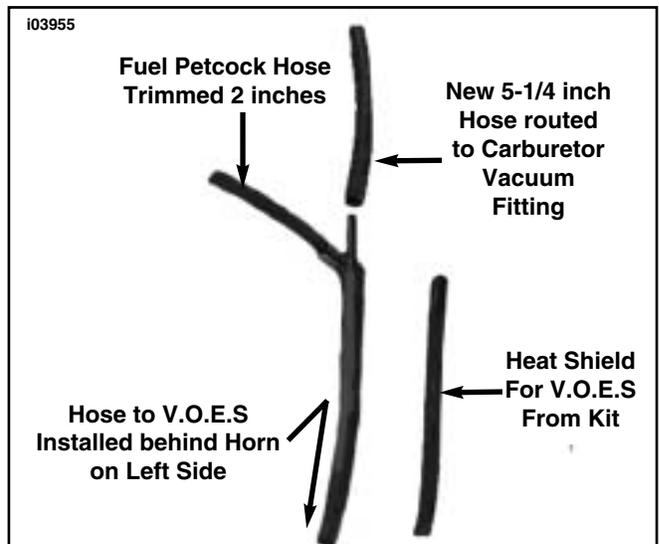

Figure 3. Modified Vacuum Hose Configuration
4. See Figure 3. This is the Modified Hose Configuration. **Note the following:**
See Figure 3. Obtain heat shield for V.O.E.S. (provided in kit) and install. The V.O.E.S. hose will route behind horn on the left side to the V.O.E.S. vacuum fitting.
4. See Figures 3 and 4. Slip the new V.O.E.S./fuel petcock vacuum hose on the carburetor fitting below throttle cable bracket.
9. Connect hose shown in Figure 3 to the V.O.E.S.